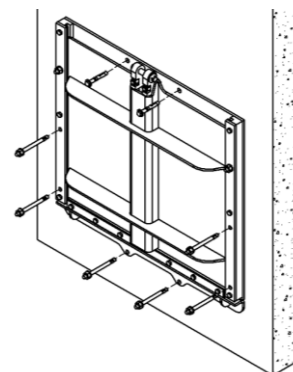

Figure 4
- Drill and install the rest of the anchor bolts (see Figure 4)